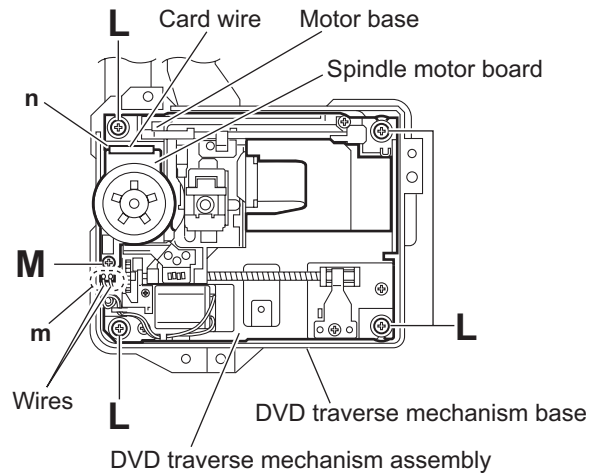

Fig.15
3.2.9 Removing the spindle motor board (See Figs.15 and 16)
- (1) From the topside of the DVD traverse mechanism assembly, remove the four screws **L** attaching the DVD traverse mechanism assembly to the DVD traverse mechanism base. (See Fig.15.)
- (2) Remove the wires from the soldered section **m** on the spindle motor board. (See Fig.15.)
- (3) Remove the screw **M** attaching the spindle motor board. (See Fig.15.)
When attaching the spindle motor board, let the card wire through the hole **n** on the motor base. (See Fig.15.)